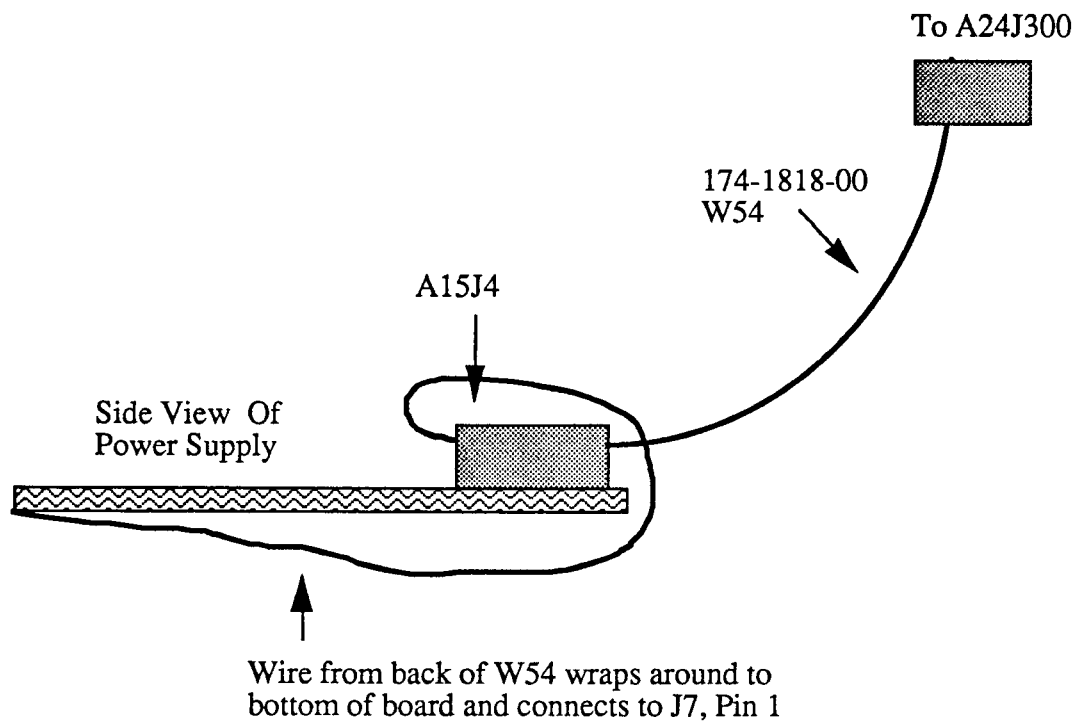

Figure 3.
- (b) Install the Data/Power ribbon cable, W54, 174-1818-00 at J4 on the power supply board. See Figure 3. Route the wire coming the connector at J4 to the bottom of the power supply and solder it to Pin 1 of connector J7. See Figures 2 and 3.